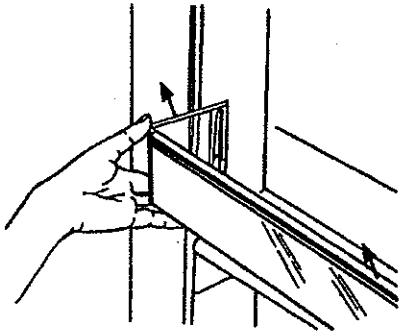

Figure 48
- b. Remove slide-in-style shelf by grasping each side of shelf retainer. Lift shelf straight up and out. See Figure 48.